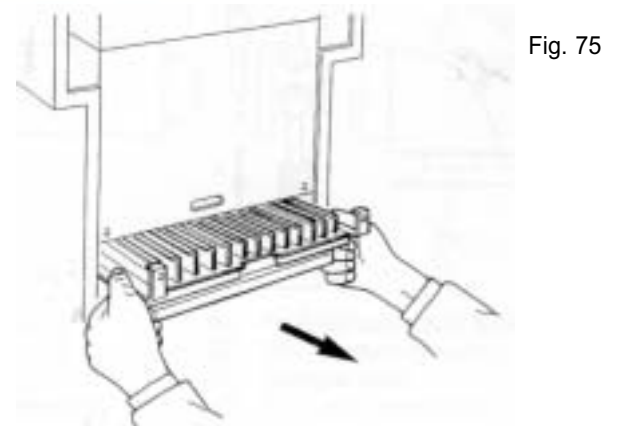

Fig. 75
- 7.15.6 Pull the burner forward and remove (Fig. 75).